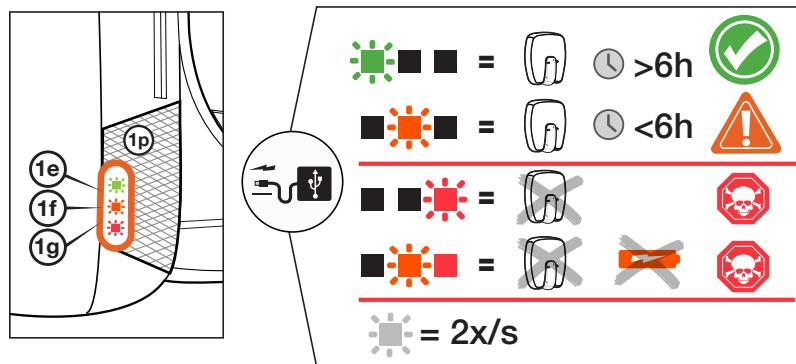

Figure 7
5. After arming, confirm system status (Figure 7).